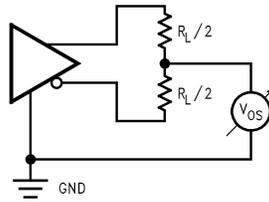

Figure 8.  $V_{OS}$  Test Circuit
**$V_{OS}$ —Offset Voltage.** The center point output voltage between the output terminals of a differential driver with input conditions applied that, according to the product specification, will establish a voltage level at the output. This voltage is measured with respect to the driver's circuit common (ground). Commonly a star "\*" or over-score bar is used with the parameter to designate the parameter's value with the opposite input state applied (see Figure 8). This parameter is also referred to as  $V_{OC}$ —Common Mode Voltage.